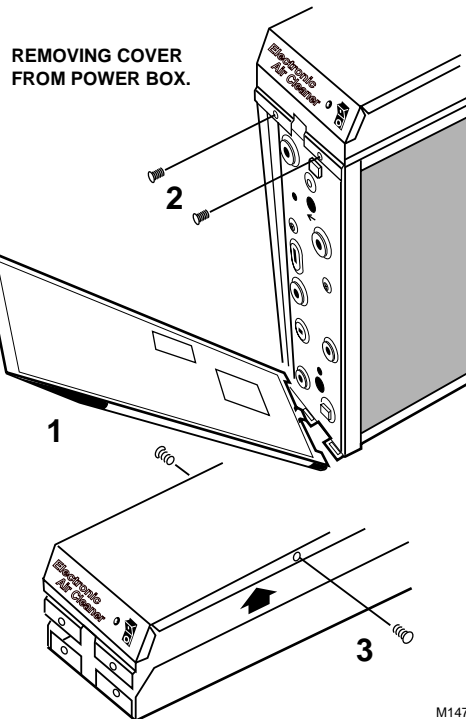
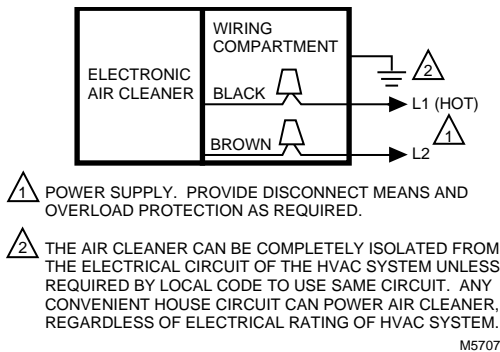

Fig. 19. Removing cover from power box.
Fig. 20. Conduit connection for electronic air cleaner.
2. Remove and retain the (2) screws from the front of the power box and the (2) screws from the sides of the power box. See Fig. 19.
3. In the power box, remove and retain (2) wire nuts that connect the line cord leads to the power box wiring.
8. Wire the air cleaner directly to line voltage using wire nuts. See Fig. 20. Secure ground connection to the green ground screw on the wiring compartment barrier.